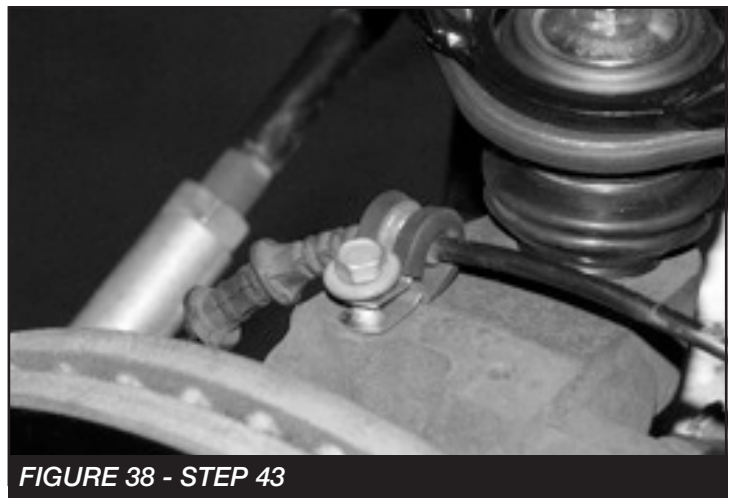

FIGURE 38 - STEP 43
43. Install the FT clamp on top of the spindle to hold the wheel speed sensor wire. **SEE FIGURE 38**